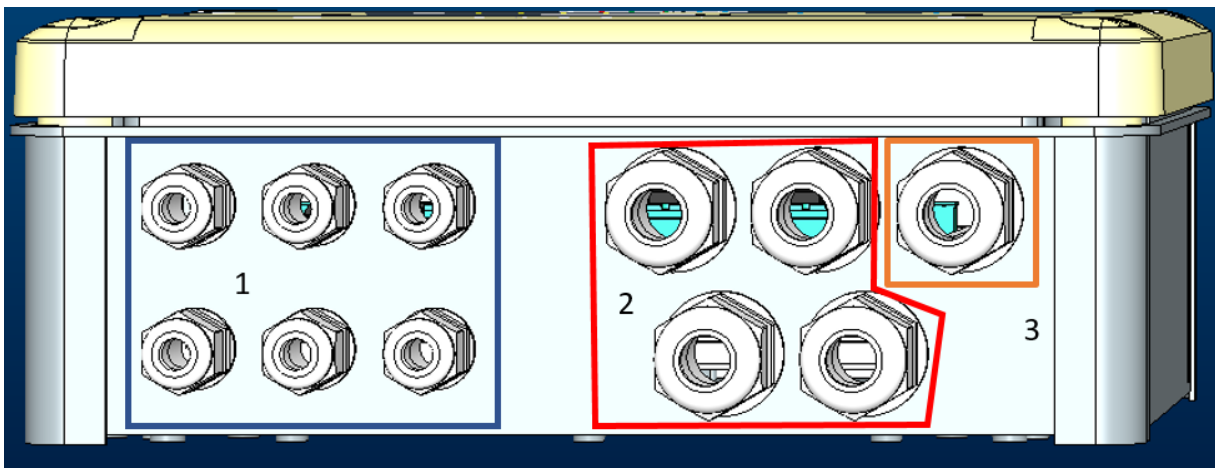

Figure 1: Front view of cable glands
1. Insert the cable in the cable gland shown in Figure 1, circled in orange (Cable gland 3)
Depending on the application, the user can make other electrical connections, see Figure 1. The cable glands in section 1 are used to wire Inputs (see Paragraph 2.7), pressure sensor (see Paragraph 2.9) and Rs485 Modbus (see Paragraph 2.10).